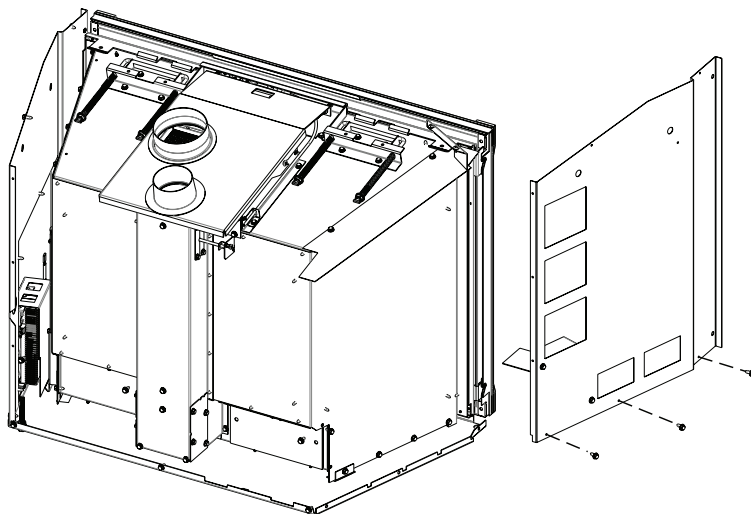

Figure 11
14. Install new left side assembly using 3 screws. **See Figure 11.**